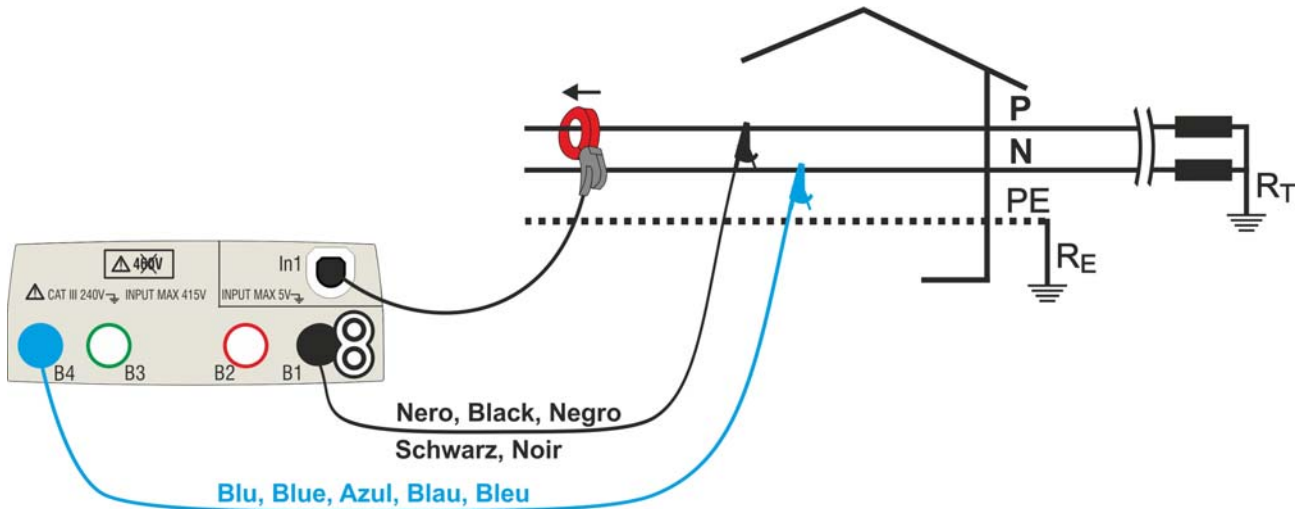
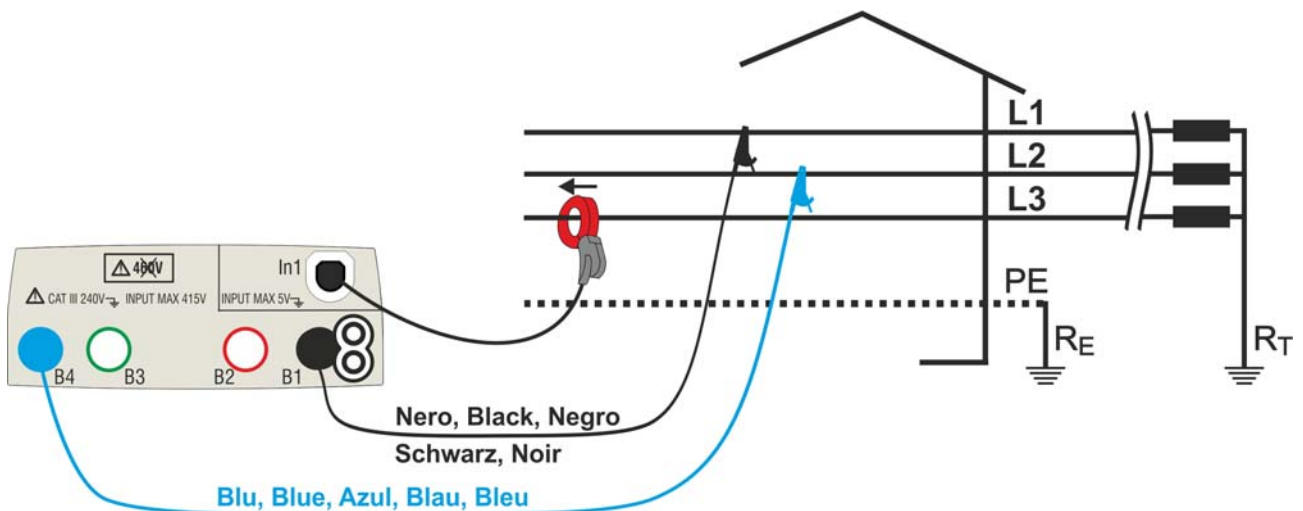

Fig. 34: Connection for measurement on Single phase installations
Fig. 35: Connection for measurement on Three phase balanced installations
4. Insert the blue and black connectors into the corresponding B4 and B1 input terminals of the instrument. Insert the remaining free end of the cables in the corresponding crocodiles or tips. Connect crocodiles or test leads to the phase P and N according to Fig. 34 for the measurement of the voltage in Single phase plant or at L1 and L2 phase according to Fig. 35 for the measurement of voltage in a Three phase balanced plant. Connect the clamp to **In1** input of the instrument and to the phase conductor for Single phase or to the L3 phase for Three phase balanced systems. The arrow on the clamp must follow the direction in which the current normally flows from the generator to the load, as shown in Fig. 34 and Fig. 35